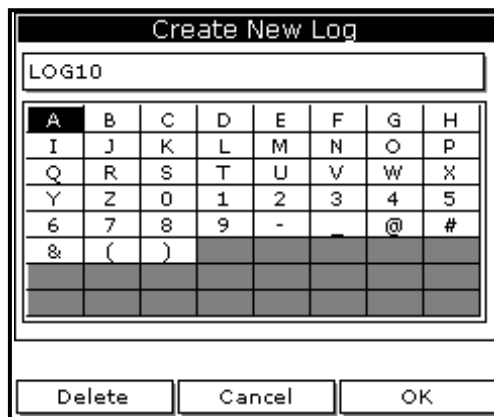

Figure 42: Name Entry Window for a New Log
4. Use the arrow key to scroll to Clone Selected Log and press **[ENTER]**. The screen now appears similar to Figure 42 on page 54.